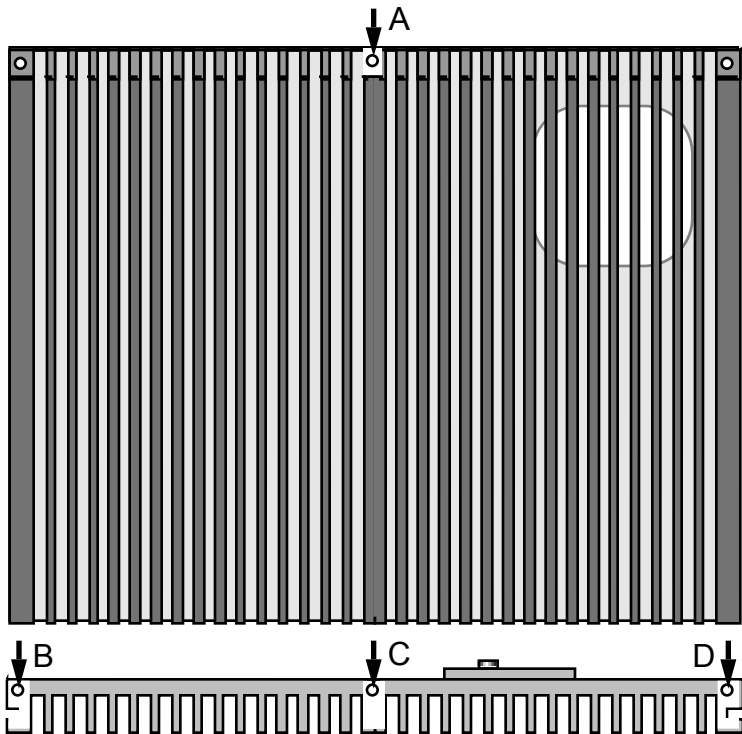

Figure 33
- Using sand paper, remove the heat sink's black finish at the four areas shown in Figure 33. **At point A, be very careful to sand only on the narrow shelf, not on the tops of the fins.**